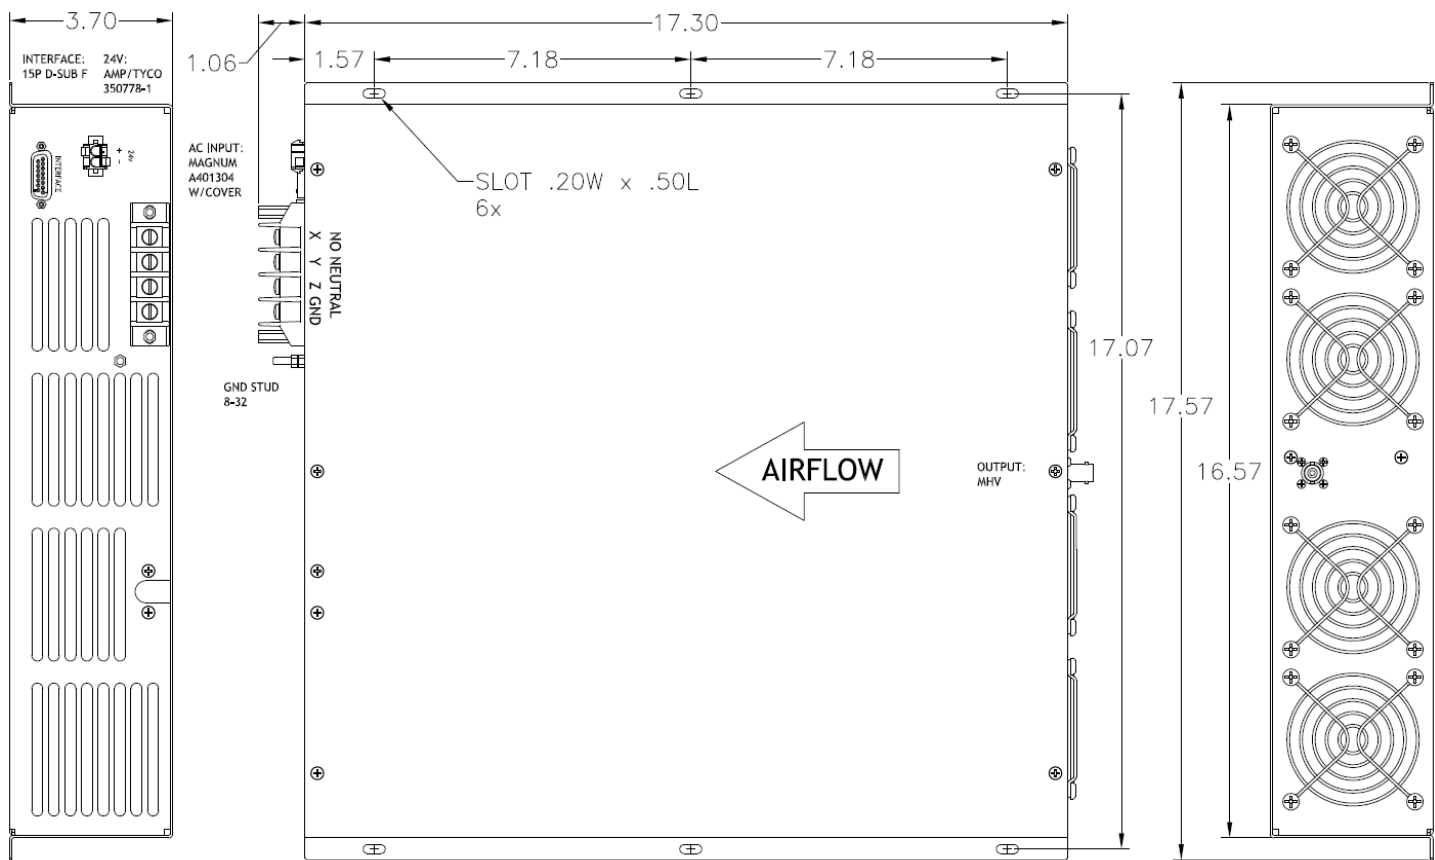

Figure 3, CCHP-6000 Mechanical Outline Drawing
Outline	Please see Figure 3, CCHP-6000 Mechanical Outline Drawing 17.3 inch length, 16.6 inch wide, 3.7 inch high 43.9 cm length, 42.2 cm wide, 9.4 cm high (does not include mounting flanges or electrical terminals)
- **Required wire and connectors:** Refer to Figure 3 on next page for the locations of connections. Table 2, CCHP Connections below shows required cables and connectors: